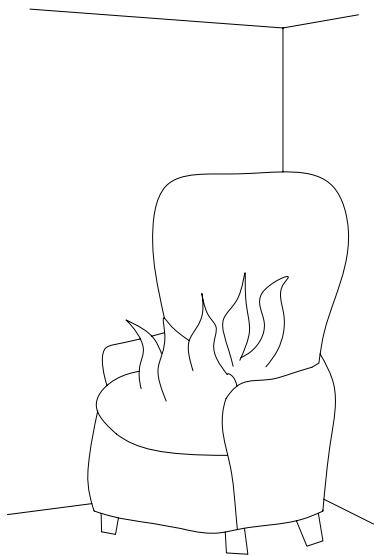

Figure 44-1 CAL 133 tests an entire piece of furniture.
*California Technical Bulletin #133*, more commonly known as TB 133 and CAL 133, is one of the most innovative and restrictive tests to date; CAL 133 is a pass/fail test of a whole piece of furniture (Fig. 44-1). It originally applied to furniture used in public spaces in California, including any area or room with ten or more articles of seating furniture, but requiring CAL 133 is becoming more common throughout the country and in more occupancies.